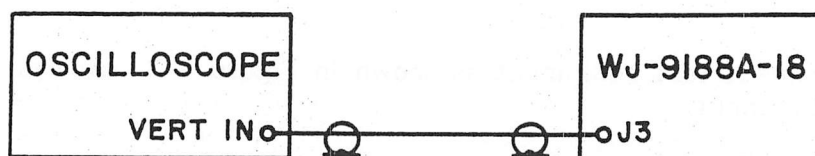

Figure 4-3a
1. Connect oscilloscope as shown in Figure 4-3a. Energize all equipment.
4. Connect the oscilloscope to VERT OUTPUT connector J3 (Figure 4-3a). Measure and note the vertical output level. Output level should be 0.4 V peak minimum.